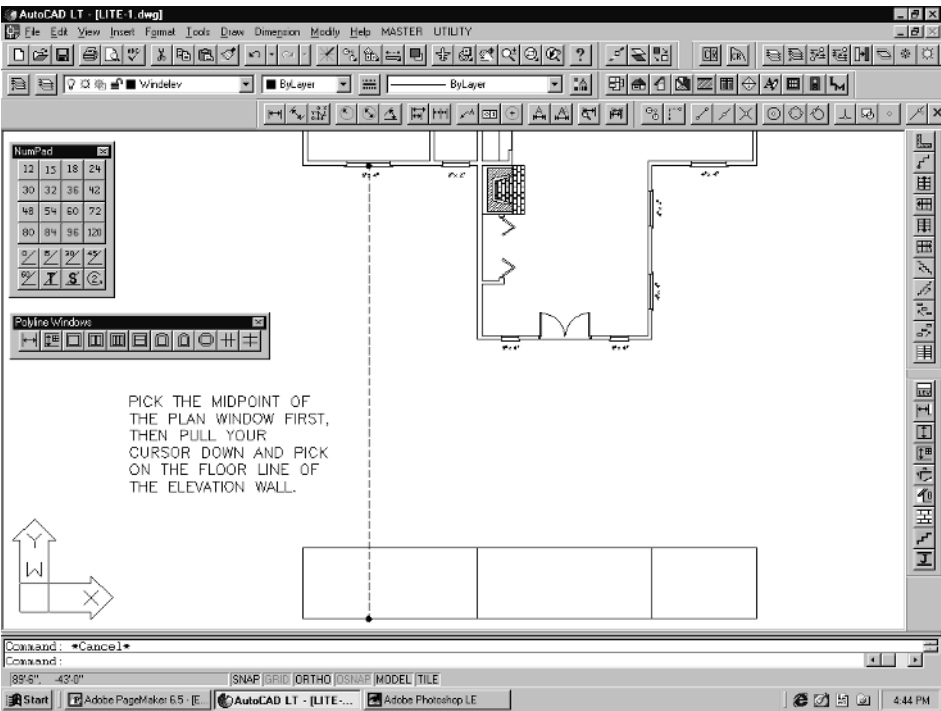

Figure 6-67
4. The last prompt is *per to*. This is telling you to pick on the floor line of the elevation wall. The cursor will automatically grab the perpendicular point of the floor line as you pass the cursor over it. See Figure 6-67.